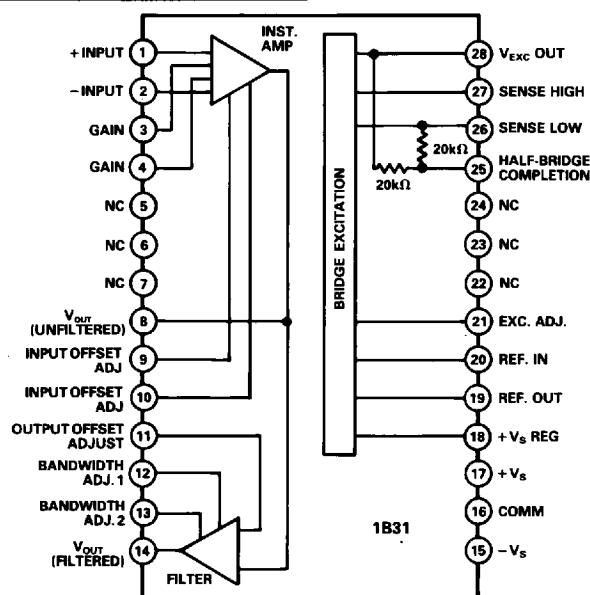

Figure 1. Block Diagram and Pinout
Model 1B31 is based on a two-stage amplifier design and an adjustable voltage regulator section, as shown in Figure 1. The front end is a low noise, low drift, instrumentation amplifier (IA) that is optimized to amplify low level transducer signals (from 2mV full scale) riding on high common-mode voltage ($\pm 9.5\text{V}$). The gain of the IA is programmed by a single resistor (1V/V to 2500V/V) and the input offset nulled out by an external potentiometer across the offset adjust Pins 9 and 10. The inverted signal ($V_{-INPUT} - V_{+INPUT}$) is brought out to Pin 8 for applications such as vibration and torque testing where the unfiltered output is required.